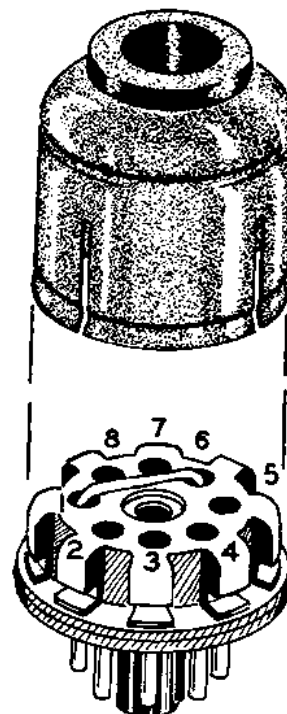

Figure 1
- () Locate the octal plug and octal plug cap. Referring to Figure 1, connect a bare jumper wire between lugs 1 (S-1) and 6 (S-1). Now install the octal plug cap.